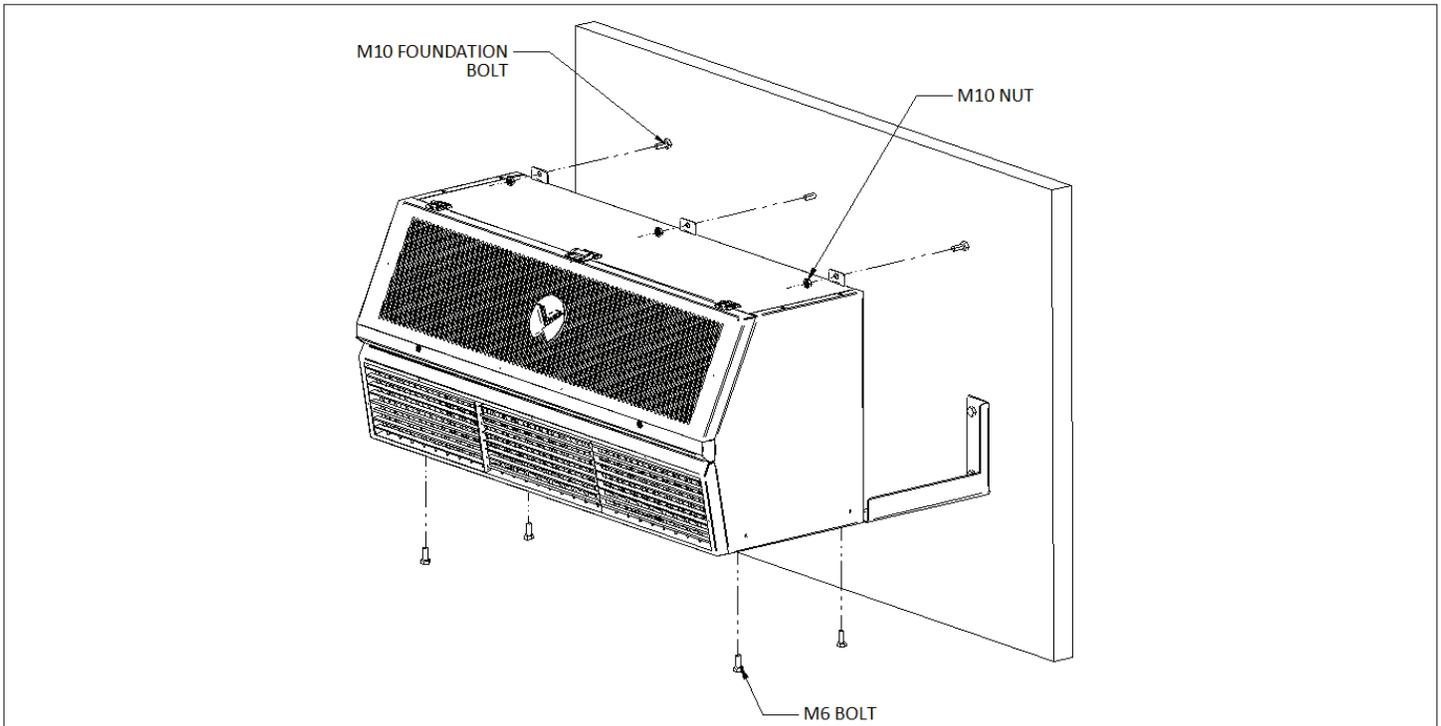

Figure 2-12 Placement of Bottom Mounting Bracket
Step 2: Rigidly mount the mounting brackets with reference to the expansion bolts, refer to Figure 2-12 for better understanding.